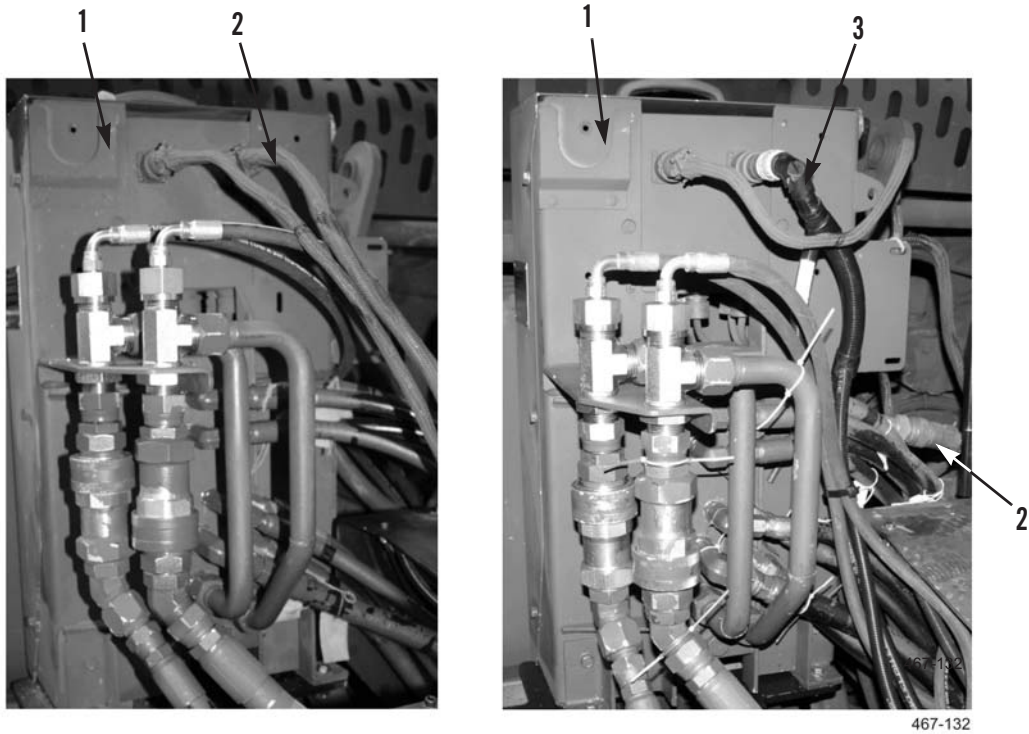

Figure 51. Stowage Wiring Harness Installation.
1. Remove truck wiring harness connector (Figure 51, Item 2) from control box (Figure 51, Item 1).
2. Install stowage wiring harness (Figure 51, Item 3) on control box (Figure 51, Item 1).
3. Install truck wiring harness connector (Figure 51, Item 2) on stowage wiring harness (Figure 51, Item 3).